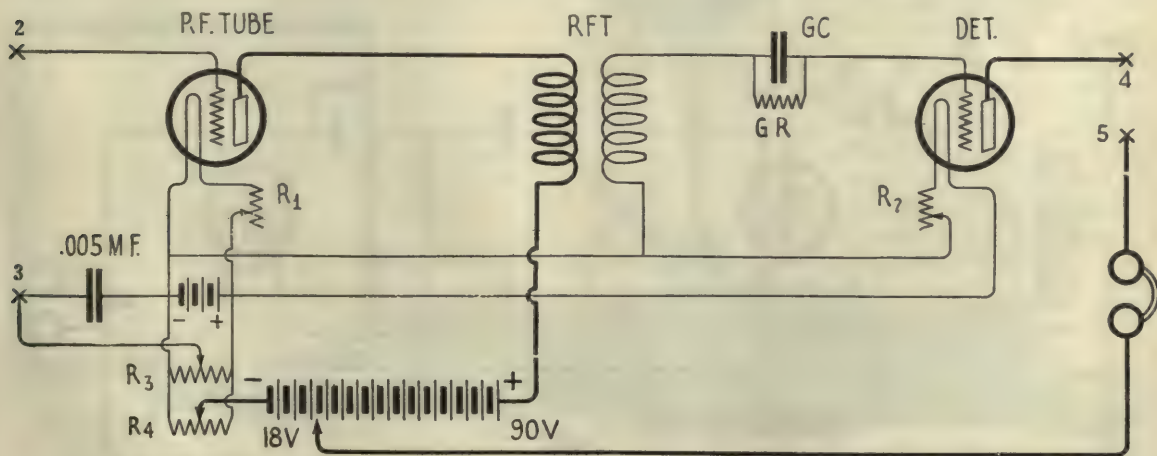

FIG. 1
**P**ROVIDED with a circuit of the type shown in Fig. 1, it is possible for us to obtain many interesting and satisfactory results from almost any of the more common forms of receivers.
To begin with, the single-circuit receiver used in conjunction with Fig. 1, may be regenerative or non-regenerative, depending upon what is used to connect  $X^4$  and  $X^5$ . For simplicity of operation, the non-regenerative method may be used, but where long distance and greater selectivity are sought, regeneration is helpful. If a short piece of wire connects  $X^4$  and  $X^5$ , the regenerative action of the detector tube is not brought into play, but a variometer or the tickler coil of the common single-circuit regenerator inserted between these two points will, on the other hand, take advantage of re-
1. The great distance that is possible with a single tube. *A score of contestants have heard stations more than 1,500 miles away*, while 1,000-mile reception is common. A dozen or so report an aggregate mileage of more than 50,000 (the record is 111,240 miles, made by Russell Sheehy. His circuit is given in Fig. 1), and many have identified more than sixty different broadcasting stations!